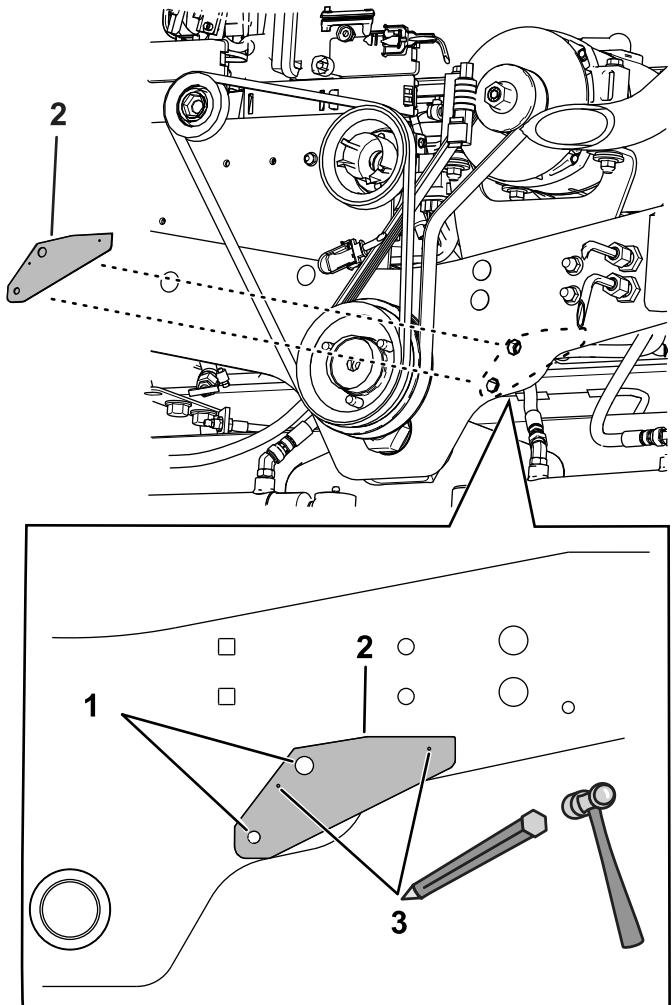

Figure 2
- 4. Align the template to the frame using the holes labeled **1** in Figure Figure 2.
- 5. Punch the location of the holes labeled **3** in Figure 2.